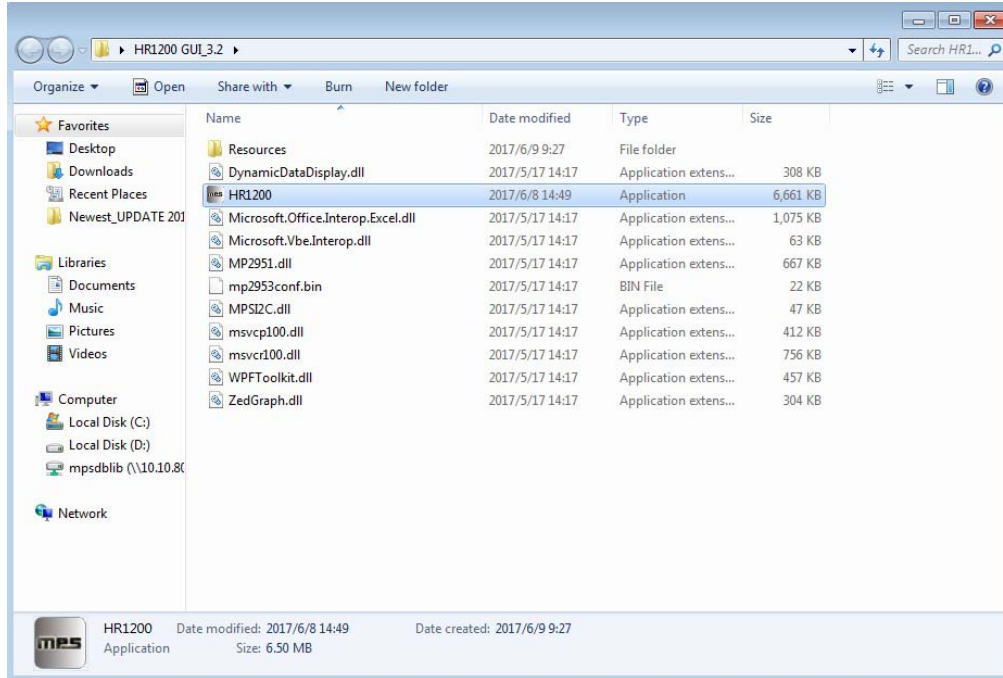
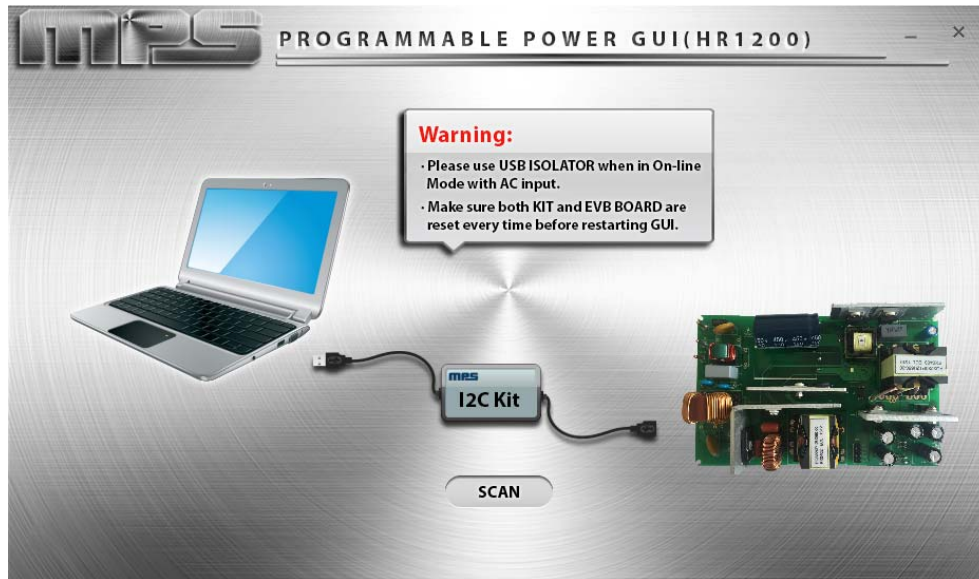

Figure 7: GUI Start-Up
Figure 8: GUI Start-Up Interface
Step 3: Load the GUI folder and double click “HR1200” to start up the GUI (see Figure 7). Then the interface shown in Figure 8 appears.